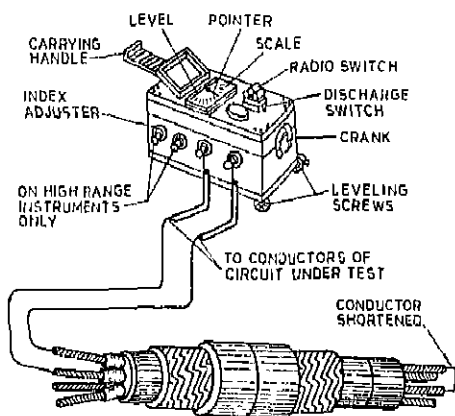

Fig. 33.1 Continuity Test on Under-ground cables
- (i) Continuity to ascertain that the core conductors in the cable are continuous throughout the length of the cable. This is illustrated in Fig. 33.1.